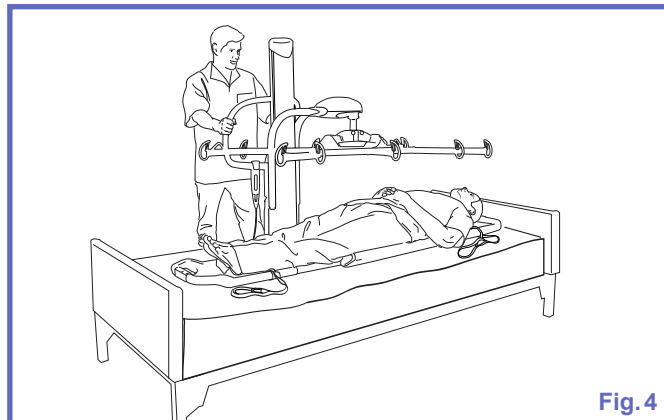

Fig. 4
- 4) Bring the stretcher frame over to the patient and align the stretcher frame's suspension point labels with the installed attachment straps. Lower the stretcher frame sufficiently to be able to connect the attachment straps securely on the hooks (See Fig. 4).